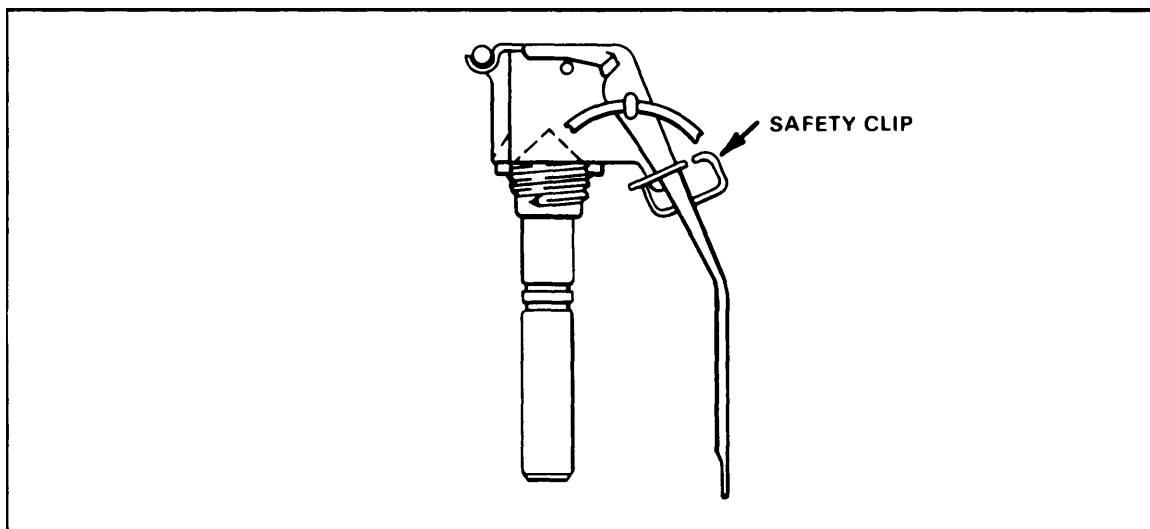

Figure 1-5. M213 fuze.
(3) M213 fuze (Figure 1-5). This fuze is used with the M67 fragmentation grenade. It has a safety clip. The delay element is a powder train requiring 4 to 5 seconds to burn to the detonator.